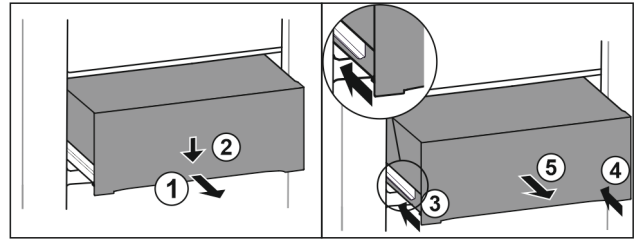

Fig. 151
- ▶ Pull out drawer half-way. Fig. 151 (1)
- ▶ Push the drawer down at the front. Fig. 151 (2)
- ▶ Push the left rail in by about 2 cm. Fig. 151 (3)
- ▶ Push the right rail in by about 2 cm. Fig. 151 (4)
- ▶ Remove drawer to the front. Fig. 151 (5)